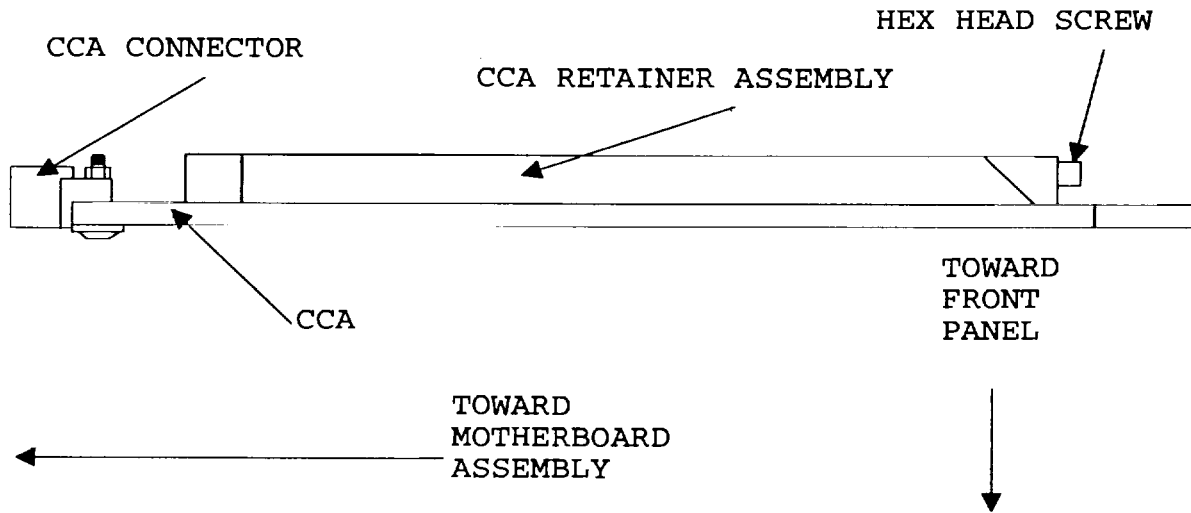

FIGURE 5-11. CCA Retainer
- (6) Using finger, push on biconic connectors (12), compression springs (2), and retainer plate (10) from front panel side of MCF FOBC to dislodge optics.
- (7) Grasp retainer plate (10). Place retaining ring (1) so that open end is facing you. Place biconic connector in hole of jaws of retaining ring removal tool. The retaining ring closest to end of biconic plug is the retaining ring that will be removed at this time. Seat retaining ring in retaining ring removal tool so that closed end is placed at notch in tool. Jaws should press on open end of retaining ring. Gently squeeze handles until retaining ring is dislodged.
- (8) Grasp retaining ring with flat part of jaws of retaining ring removal tool. Remove retaining ring and set aside.
- (9) Remove compression springs (2) and set aside.
- (10) Push biconic connectors (12) through retainer plate (10), receptacle washer (5), and shielding gasket (6).
- (11) Using retaining ring removal tool, remove remaining retaining rings from biconic connectors and set aside.
- (12) Using 3/32-inch hex key, loosen four screws on electronic circuit card retainers of FTF CCA and MCF CCA (one on each side of each CCA) (refer to Fig. 5-11). Loosen both sets of screws before removing FTF CCA.
- (13) Place thumbs on FTF CCA card ejectors and flip back toward sides of card cage to release FTF CCA.
- (14) Remove FTF CCA from card cage assembly.
- (15) Release excess fiber on FTF CCA by pulling on velcro fiber retainers.
- (16) Set FTF CCA aside.
- (1) Disengage power to FTS. V.
- (2) Using 3/32-inch hex key, loosen two screws on electronic circuit card retainers of PS CCA (one on each side of CCA)(refer to Fig. 5-11).
- (3) Place thumbs on card ejectors and flip back towards sides of card cage to release CCA.
- (4) Remove faulty PS CCA by grasping card and pulling away from card cage assembly.